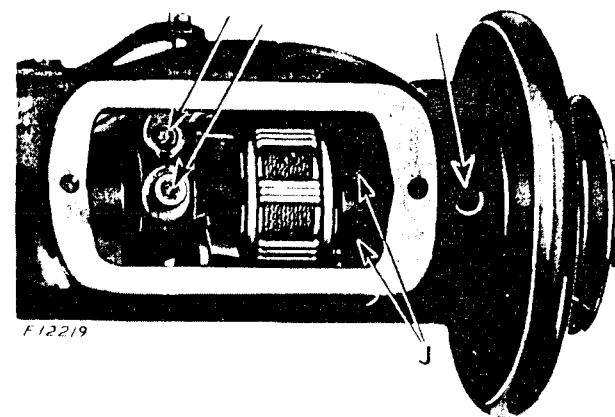
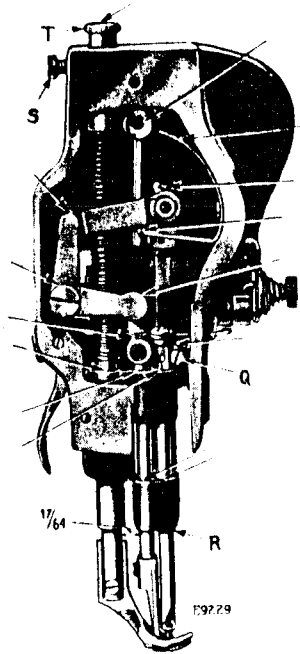

Fig. 4. Oiling Points in Arm of Machine
Fig. 6. Face Plate Removed for Oiling
Swing back the cover on top of the machine and apply oil where indicated in Fig. 4. Loosen the thumb screw in the upper end of the face plate, turn the plate up and oil the wick and bearings shown in Fig. 6, then replace and tighten the face plate.
The pressure on the material is regulated by the thumb screw (T, Fig. 6) at the top of the machine. To increase the pressure, loosen the lock screw (S, Fig. 6) at the back of the machine and turn the thumb screw (T) downward. To decrease the pressure, turn the thumb screw (T) upward. When the desired pressure is obtained, securely tighten the lock screw (S). The pressure should be only heavy enough to enable the feed to move the work along freely.